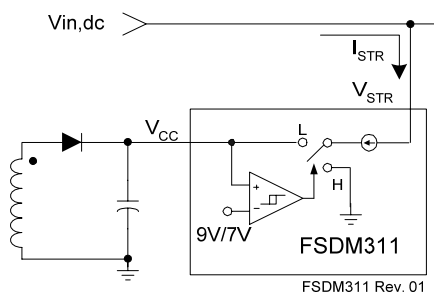

Figure 15. Internal Startup Circuit
1. Start-up: At start-up, the internal high-voltage current source supplies the internal bias and charges the external Vcc capacitor, as shown in Figure 15. In the case of the FSDM311, when Vcc reaches 9V, the device starts switching and the internal high-voltage current source stops charging the capacitor. The device is in normal operation provided that Vcc does not drop below 7V. After start-up, the bias is supplied from the auxiliary transformer winding.